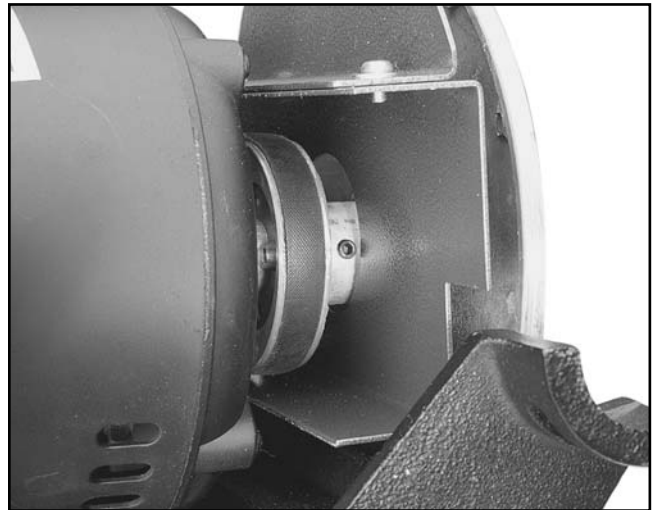

Figure 11. 8" disc attached to motor.
11. Slide the 8" aluminum disc onto the motor shaft. Lightly tap into place with a rubber mallet if necessary. Align the disc and motor shaft keyways and insert the $\frac{3}{16}$ " square key. Secure the disc with a $\frac{1}{4}$ " - 20 x $\frac{3}{8}$ " setscrew. **See Figure 11**.